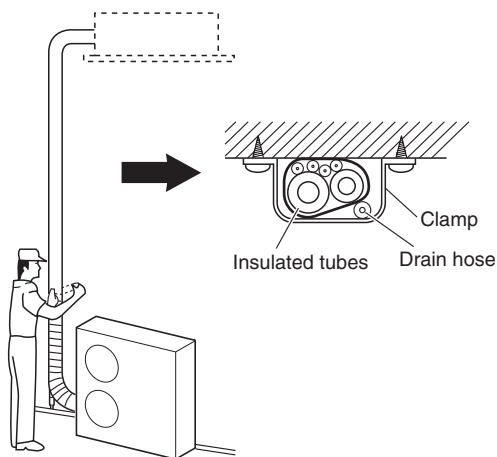

Fig.5-10
- (1) At this time, the refrigerant tubes (and electrical wiring if local codes permit) should be taped together with armoring tape in 1 bundle. To prevent condensation from overflowing the drain pan, keep the drain hose separate from the refrigerant tubing.
- (2) Wrap the armoring tape from the bottom of the outdoor unit to the top of the tubing where it enters the wall. As you wrap the tubing, overlap half of each previous tape turn.
- (3) Clamp the tubing bundle to the wall, using 1 clamp approx. each meter. (Fig. 5-10)